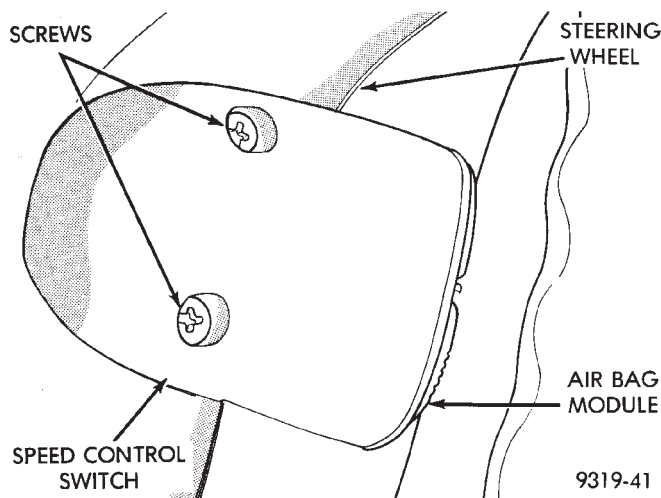

Fig. 2 Speed Control Switches
(1) Lock the steering column by turning steering wheel 1/2 turn (180°) clockwise from the straight ahead position of the front wheels. Turn key to the lock position and remove key from lock cylinder. This will ensure that no damage occurs to clock spring when steering column is removed from vehicle.
(2) Disconnect the negative (ground) cable from the battery and isolate cable from battery.
(3) Remove the 2 speed control switches from steering wheel (Fig. 2), to gain access to air bag module attaching screws. If vehicle is not equipped with speed control, pry out covers on sides of steering wheel for access.